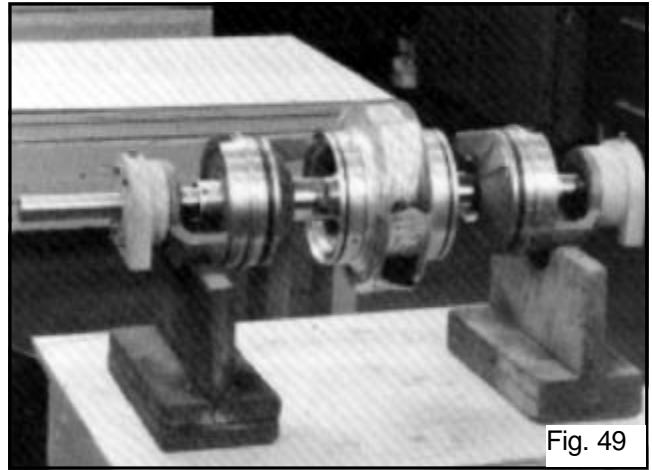
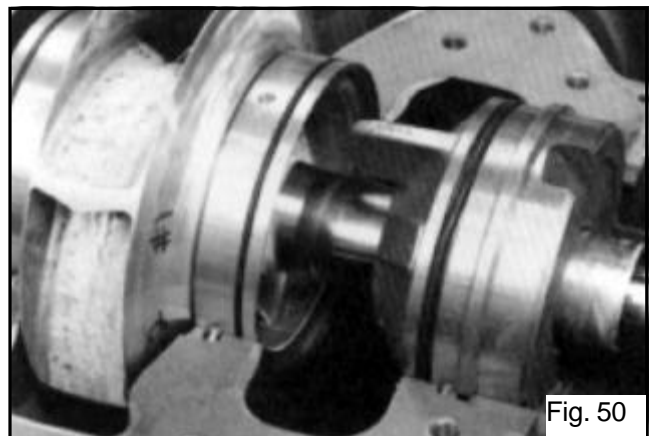

Fig. 49
Fig. 50
- Set the rotating element (Fig. 49) in the pump casing (2-001-0), assuring correct rotation. Locate both stuffing box tongues in their respective casing grooves. Locate pins (3-943-9) in the stuffing box and the casing wear rings in their respective slots at the casing parting surface. Correct any O-ring bulging. (See Fig. 50)